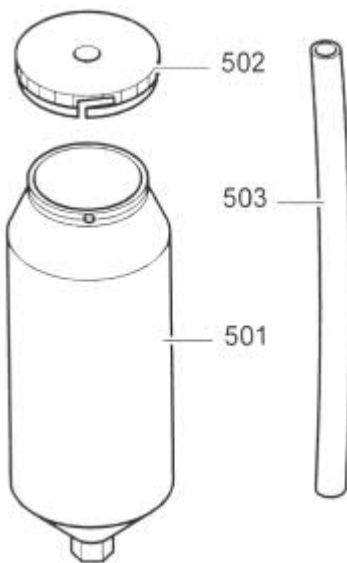

Figure 7
Paint container, 2.5 l., complete (figure 7)	BJ 000 971 0812
- **Paint container, 2.5 l. capacity (figure 7)**